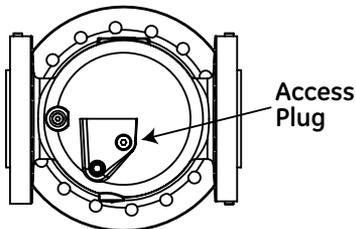

Figure 4 - Remove the access plug to check impeller rotation.
- After the meter is installed, remove the socket head plug in the timing gear end of the meter (as shown in Figure 4) using a hex wrench. Insert a Hex wrench into the timing gear clamp on the end of the impeller shaft and slowly turn the impellers clockwise, checking for free rotation. If binding is present, do not attempt to disengage the impellers. Remove the meter from the set and clear all obstructions or piping strain prior to reinstallation. Replace the plug after verifying free impeller rotation and torque to 9.5 to 10.5 ft. lbs (12,9-14,2 Newton-Meters).